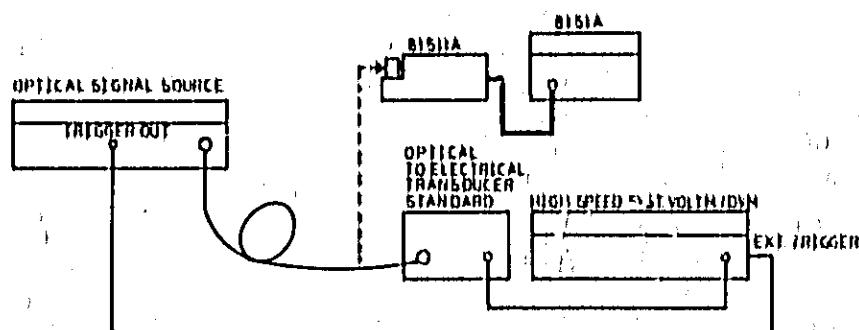

Figure 4-3. Test setup for Low Peak Power measurements for 0 dBm and below
12. Connect the Optical Signal Source to the System Voltmeter as shown in Figure 4-3.